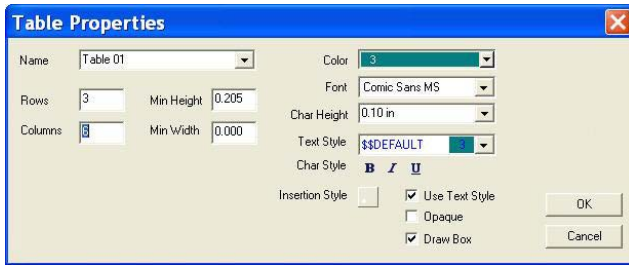

Figure 9-99. Table Properties – Empty Table
1. Click **Insert ▶ Table ▶ Empty Table** (Figure 9-99 on page 9-54).